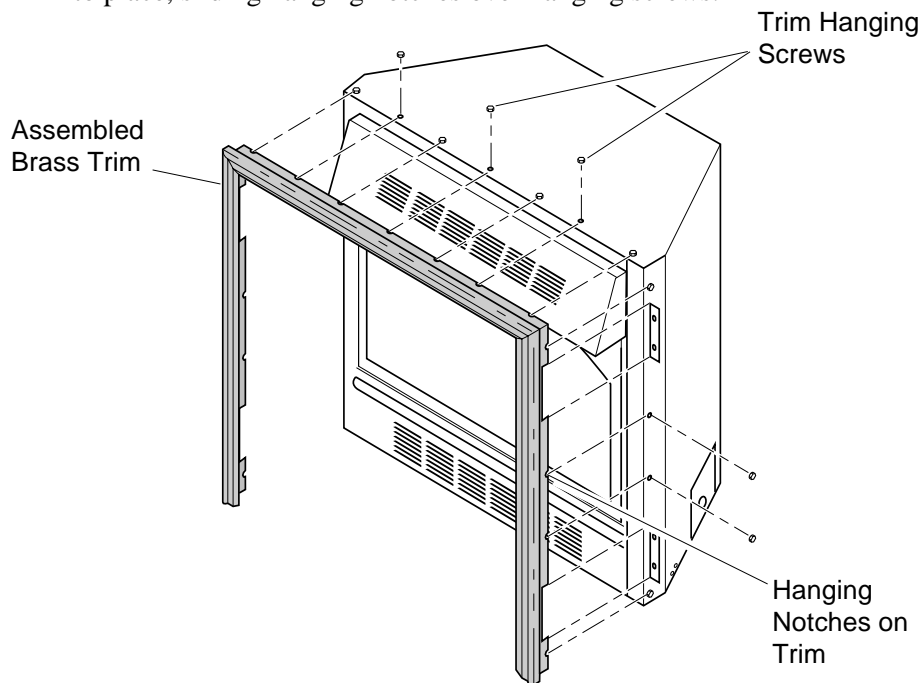

Figure 6 - Attaching Brass Trim to Fireplace
8. Tighten trim hanging screws (#10 x 6.25 shoulder) into holes in cabinets. Place the assembled trim onto fireplace cabinet. Align hanging notches on trim with hanging screws on side of fireplace (see Figure 6). Push trim firmly into place, sliding hanging notches over hanging screws.
8. Install brass trim after final finishing and/or painting of wall (see Figure 6, page 10).